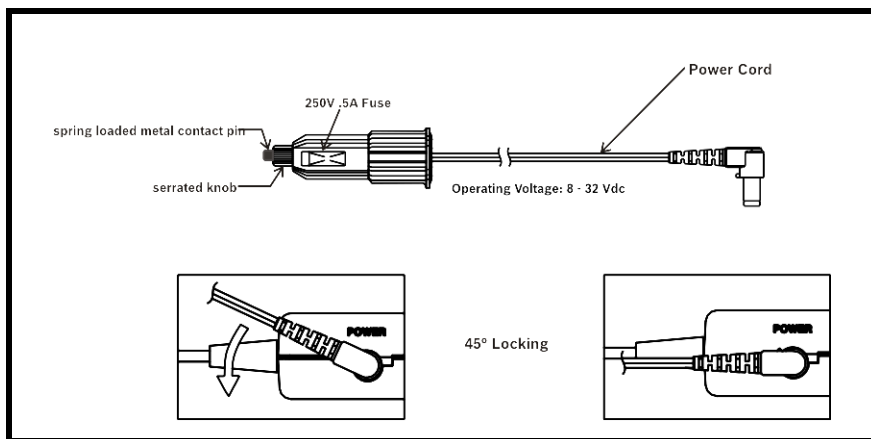

FIGURE 2. Panel Power Option
2. Tip the **open end of the jack** to allow the fuse to fall out. See Figure 2.